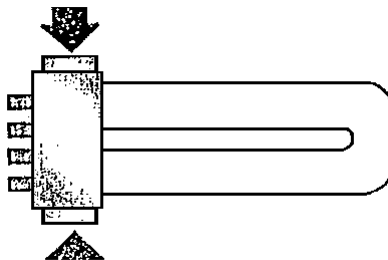

Figure 2: Holding Fluorescent Tube
3. Hold the tube at the two points indicated on Figure 2, and remove.
4. Fit a new tube, again holding as in Figure 2, and press into the holder until it clicks.